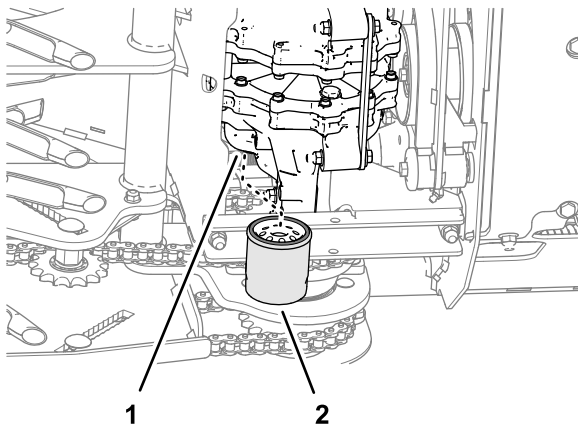

Figure 56
4. Locate the 2 filters under the transmissions (Figure 56).
6. Remove the filters to and allow the fluid to drain from the drive system (Figure 56).
2. Turn the filter clockwise until rubber seal contacts the filter adapter, then tighten the filter an additional 2/3 to 3/4 turn (Figure 56).